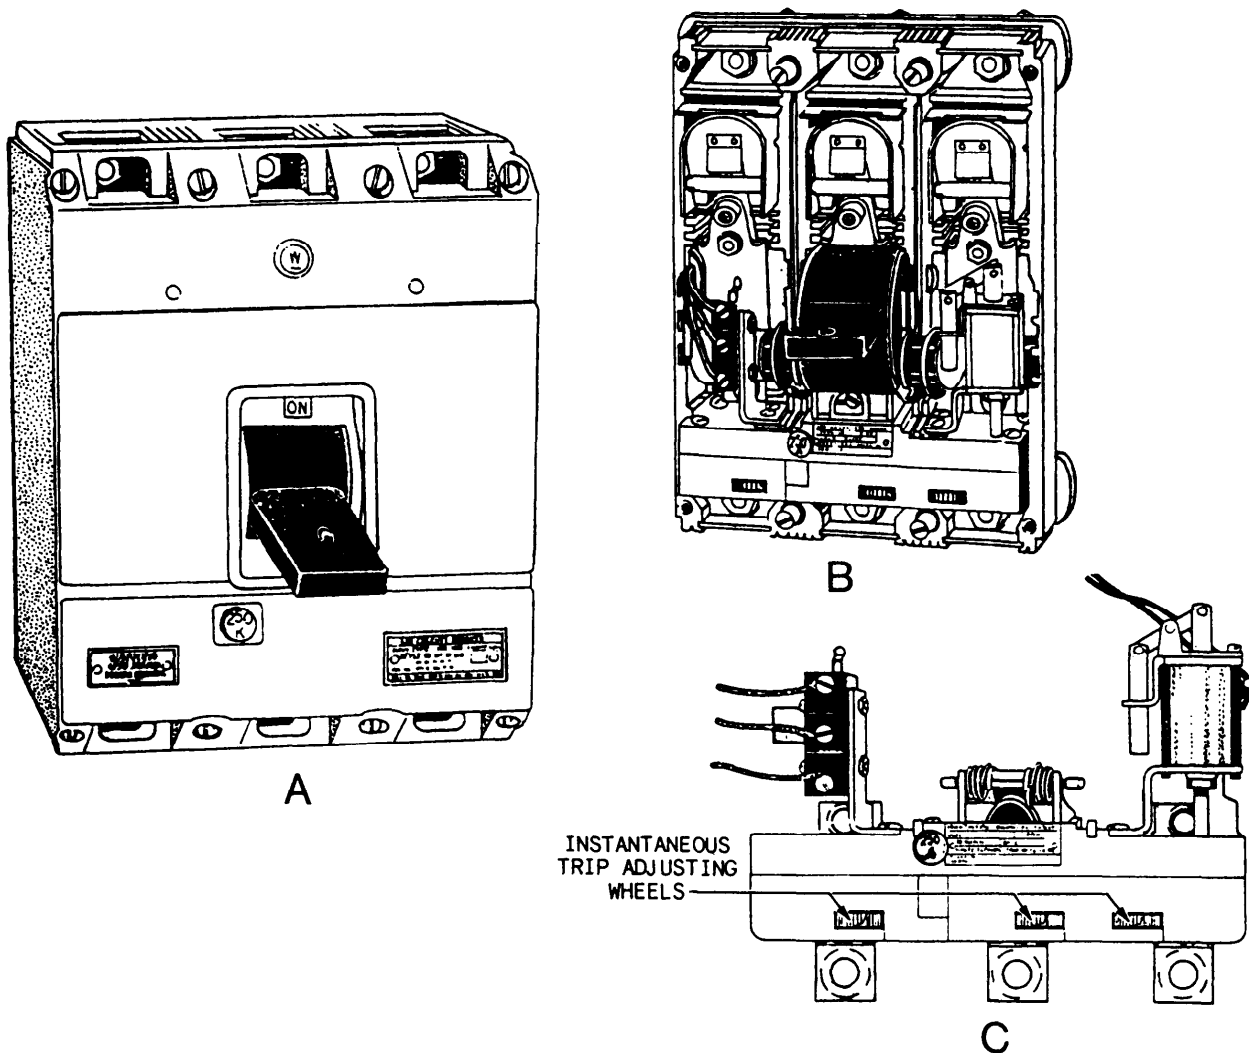

Figure 9-13.—AQB-A250 circuit breaker. A. Front view. B. With cover removed. C. Shunt trip.
**AQB.**—Type AQB circuit breakers, such as the AQB-250 shown in figure 9-13, view A, are mounted in supporting and enclosing housings of
The frame size of the CB is designated by the 250. In a 250-ampere frame size CB, the current-carrying parts of the breaker have a continuous rating of 250 amperes. Trip units for this breaker (fig. 9-13, view B) are available with current ratings of 125, 150, 175, 225, and 250 amperes.
The AQB-A250 circuit breaker may have auxiliary switches or shunt trip (for remote tripping) attachments. Figure 9-13, view C, shows a shunt trip. The instantaneous trip setting of the AQB-A250 trip units may be adjusted by the instantaneous trip adjusting wheels. These trip adjusting wheels can be adjusted to five positions, LO-2-3-4-HI. The trip unit label will list the instantaneous trip value obtainable for each marked position. The settings must be the same on each pole of the CB.